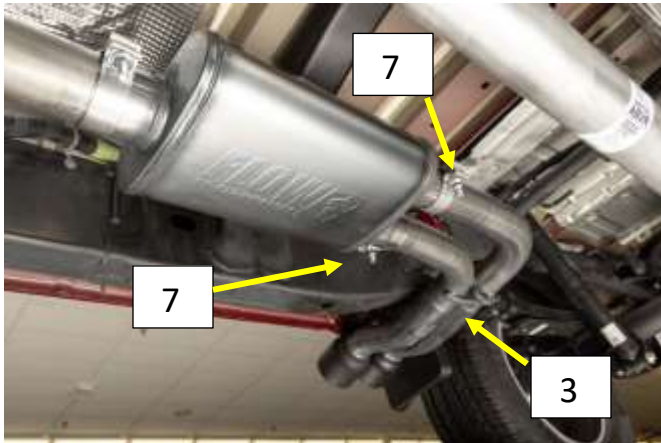

Figure 3
8. Install a supplied 2.5" band clamps (7) on to the muffler outlet with the bolt at the top and the nut facing the ground. Do not tighten. Fig. 3
9. Install the tailpipe assembly (3) into the muffler outlets. Tighten the clamps just enough to hold the tailpipe in place and still allow for adjustment.